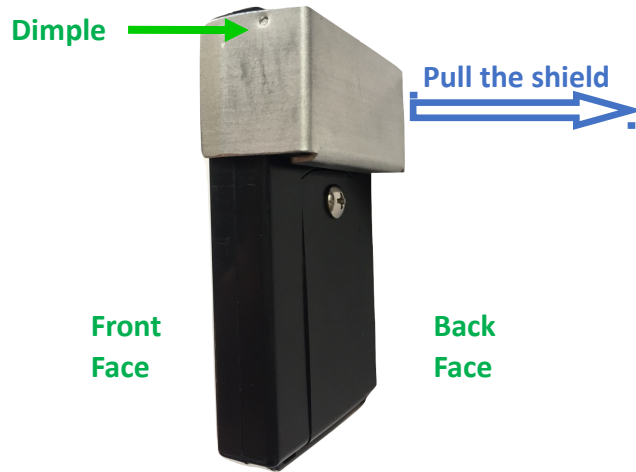

Figure 5.2 Side View of the Case
- 1) Pull the Alpha/Beta shield off the case (see Figure 5.2);